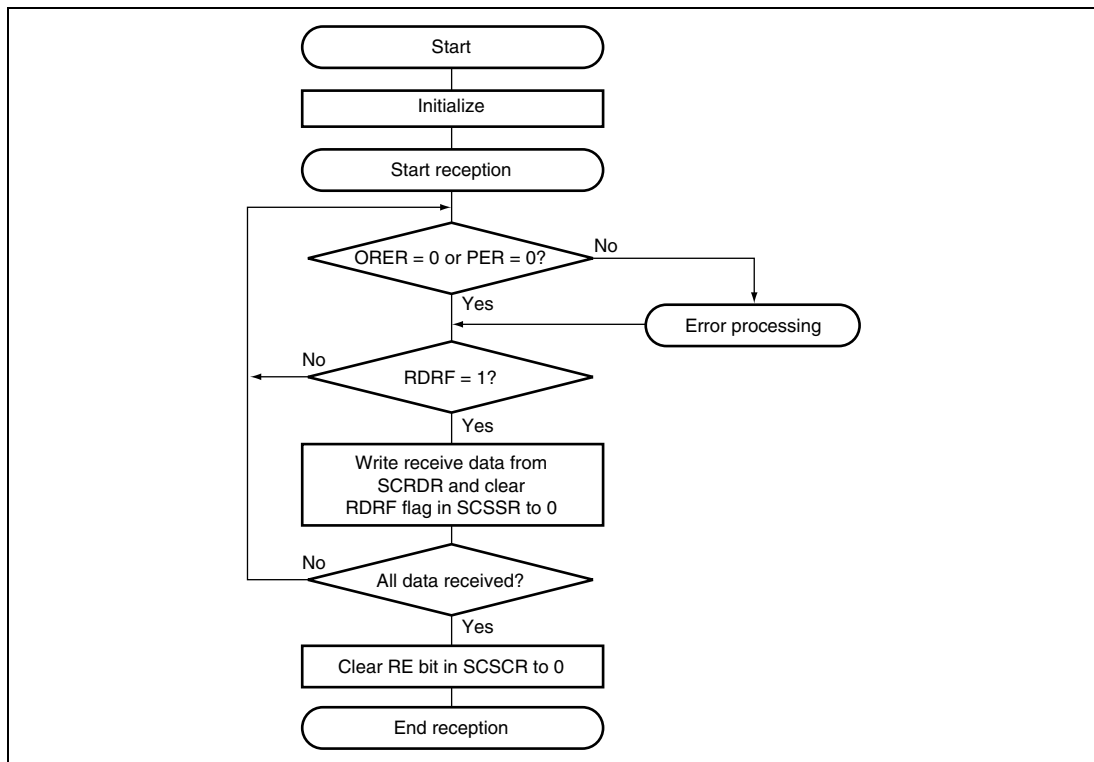

**Figure 15.7 Reception Flowchart (Example)**
**Serial Data Reception:** The processing procedures in the smart card mode are the same as in ordinary SCI processing. The reception processing flowchart is shown in figure 15.7.